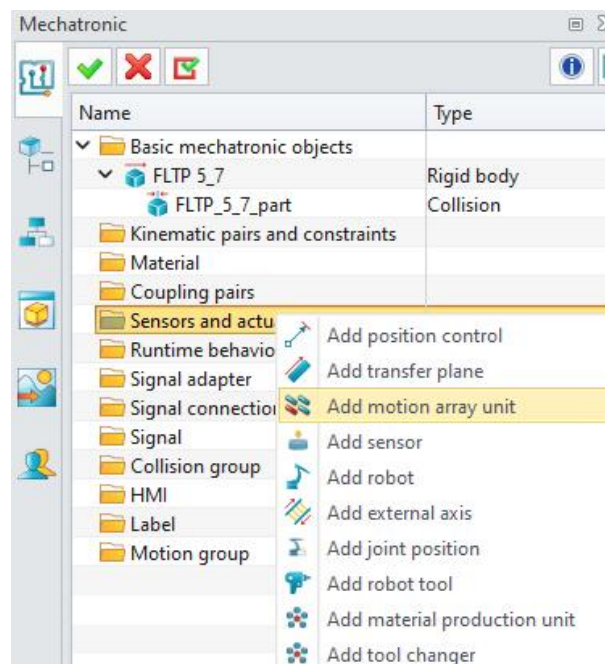

Figure 7-9: Add motion array
- Click Right-click within the "Sensors and actuators" panel and choose "Add motion array unit". (Figure 7-9)